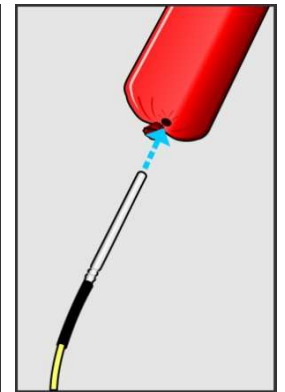

Fig. 4-2
2. Put the detonator into the hole. (Fig. 4-2)